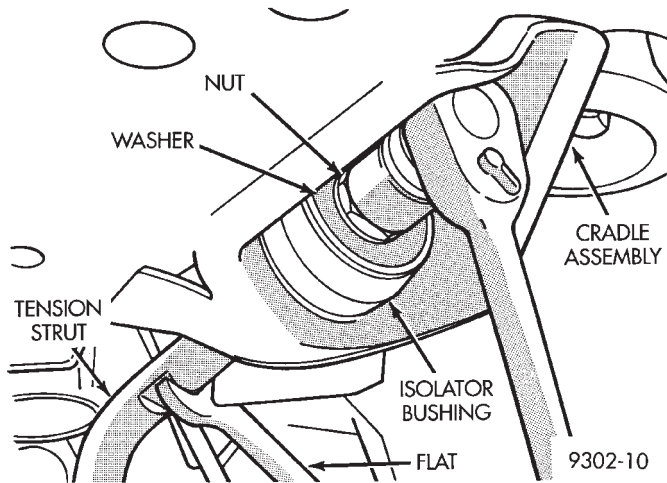
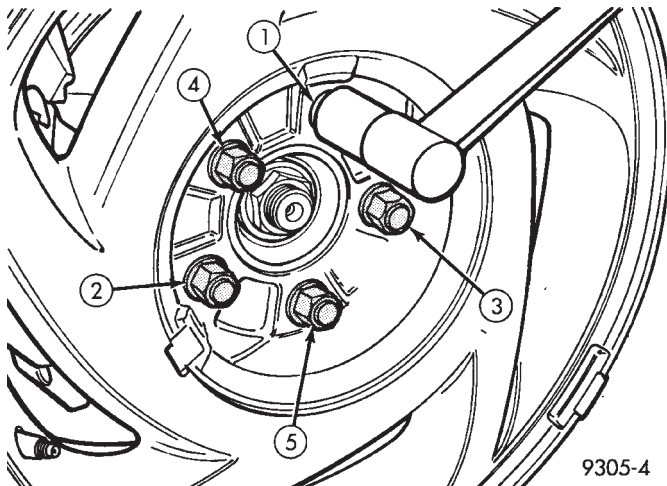

Fig. 16 Tension Strut To Cradle Mounting
Fig. 17 Tightening Wheel Nuts
(1) Install lower control arm and tension strut as an assembly back on the vehicle. See Lower Control Arm Installation in this section of the service manual for the required installation procedure.
(2) Install washer on end of tension strut (Fig. 16). Install a **NEW** tension strut to cradle bracket nut, on tension strut (Fig. 16). Torque the tension strut to cradle bracket retaining nut to 175 N•m (130 ft. lbs.). When torquing tension strut nut, keep tension strut from turning by holding tension strut at flat using an open end wrench (Fig. 16).
(3) Install the wheel and tire assembly.
(4) Tighten the wheel mounting stud nuts in proper sequence (Fig. 17) until all nuts are torqued to half specification. Then repeat the tightening sequence to the full specified torque of 129 N•m (95 ft. lbs.).